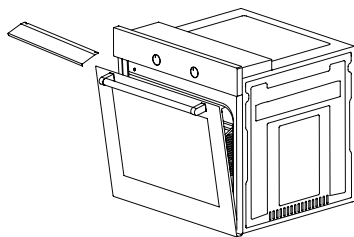

Figure 26
1.Place the heat shield under the control panel by opening the oven front door. (Figure 26)